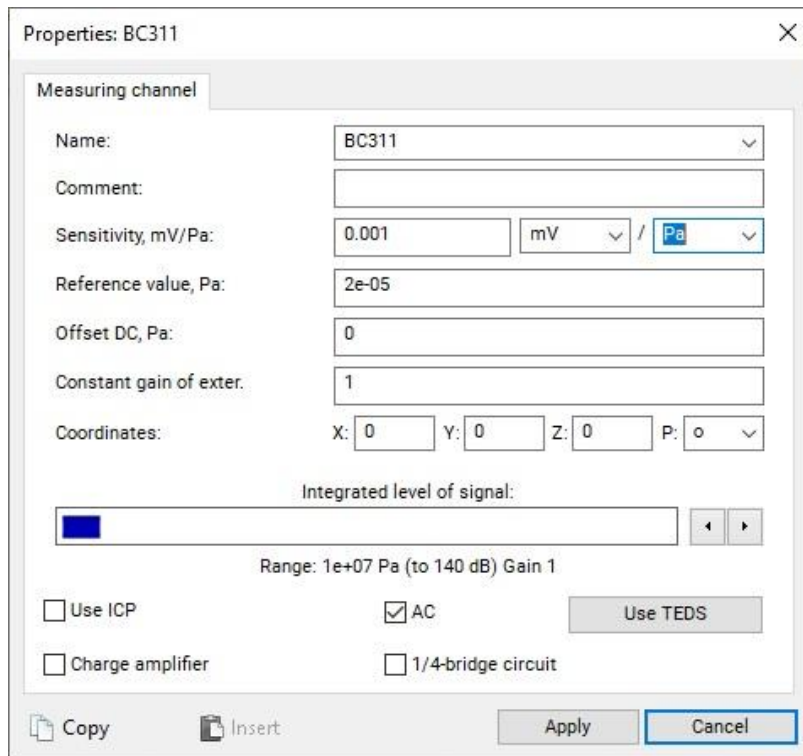

Fig. 1.7 Measuring Channel tab
5. In the Measuring channel tab, set the properties of the analyzer channel according to Fig. 1.7.
***ATTENTION!!!** The ZET 440 Amplifier's charge gain is 1 mV/pC. Therefore, sensitivity in pC/Pa is equal to sensitivity in mV/Pa when connected via a ZET 440 Amplifier. Accordingly, when connecting the Hydrophone to the spectrum analyzer via the ZET 440 Amplifier, if the Hydrophone sensitivity according to the Data Sheet is 0.44 pC/Pa, enter 0.00044 V/Pa in Sensitivity, V/unit field (see Fig. 1.7).*